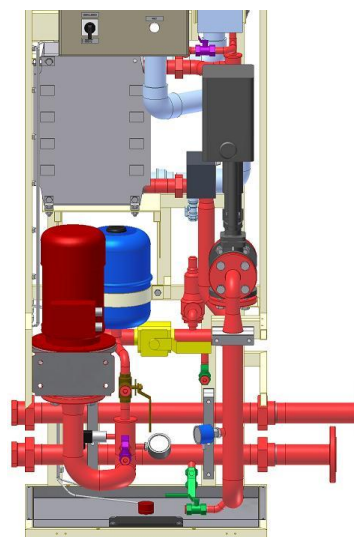

Figure 3.1-8
- Valves V161...V162      open (violet colour in Figure 3.1-8)
- Valve V160              lever down (brown colour in Figure 3.1-8)
- Valve V140              closed (yellow colour in Figure 3.1-8)
- Valves V210...V212      closed (green colour in Figure 3.1-8)